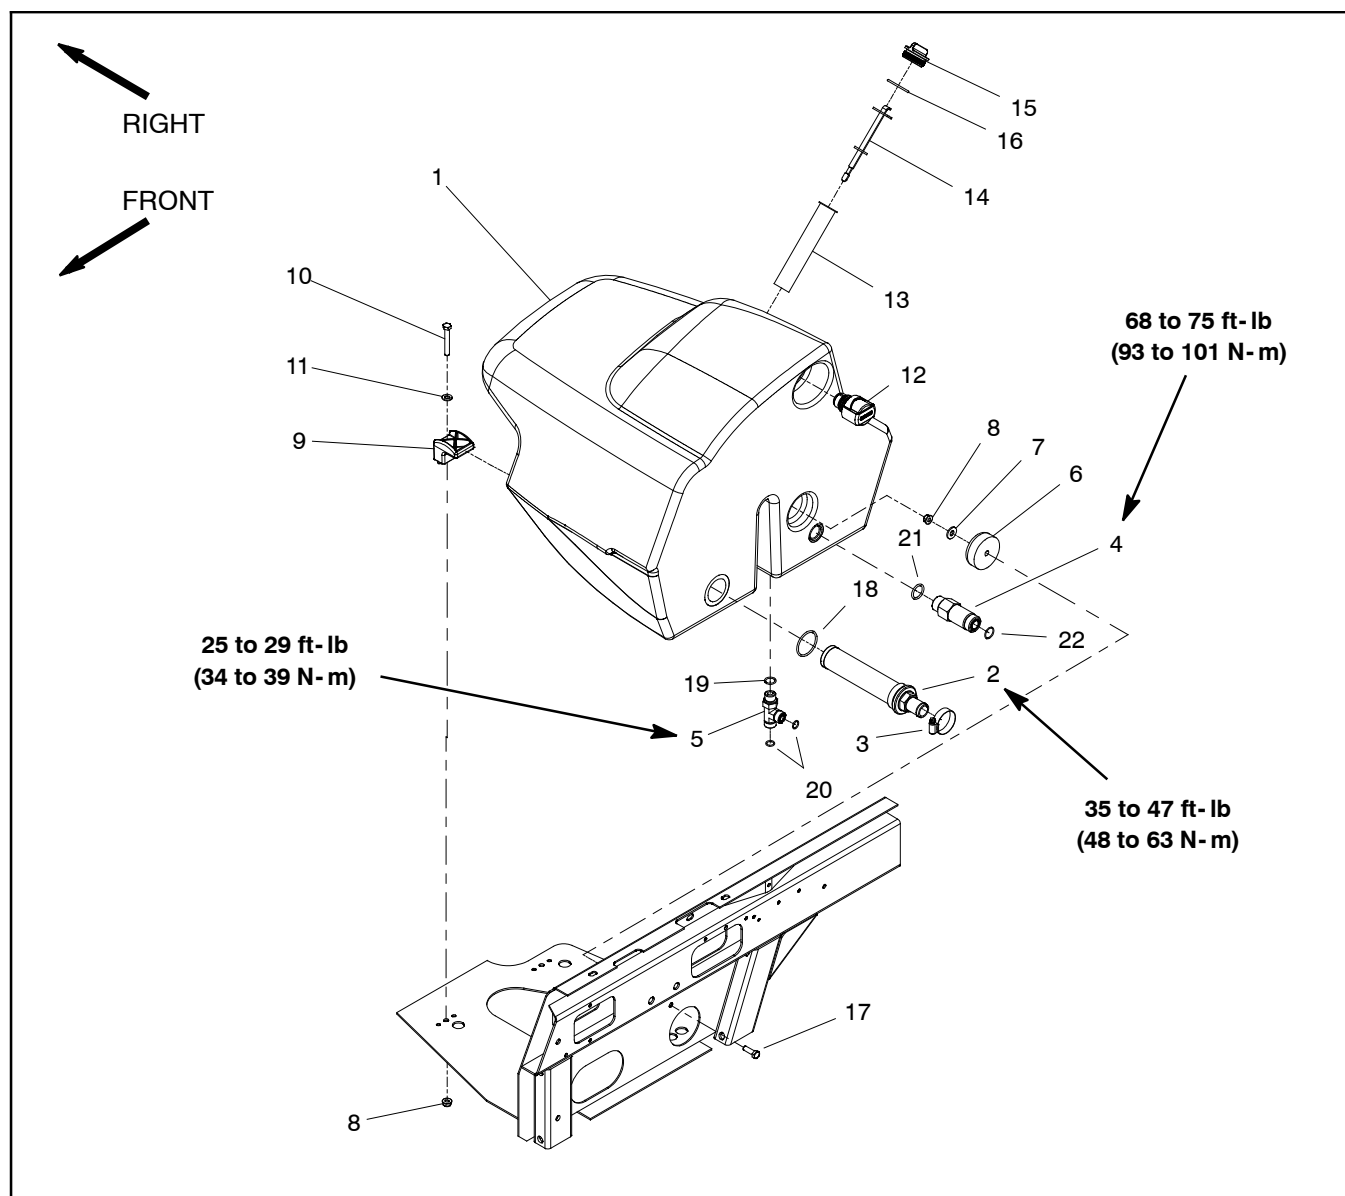

Figure 99
**Removal (Fig. 99)**
6. Remove hydraulic reservoir using Figure 99 as a guide.
**Installation (Fig. 99)**
1. If fittings were removed from reservoir, lubricate and place new O-rings onto fittings. Install fittings into reservoir openings using marks made during the removal process to properly orientate fittings. Torque fittings to values identified in Figure 99.
2. Install reservoir using Figure 99 as a guide.